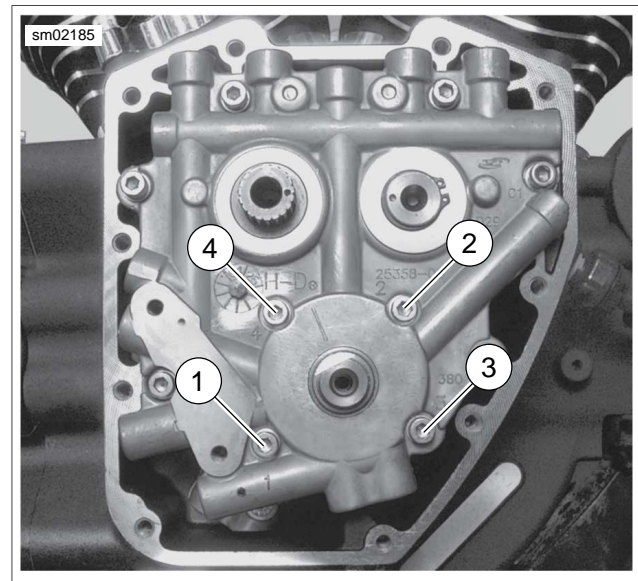

Figure 3-67. Oil Pump Torque Sequence
6. See Figure 3-67. Install oil pump.